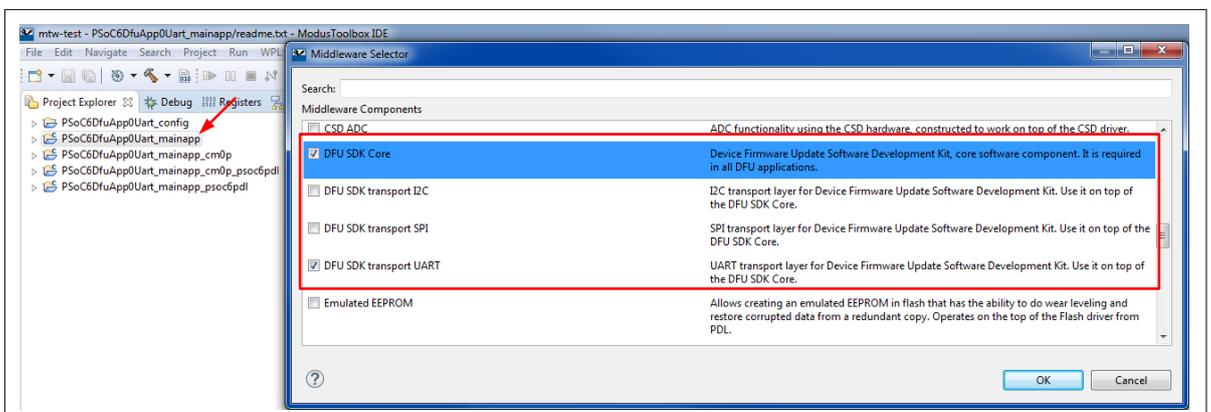

Figure 7 Incorporate DFU SDK into a ModusToolbox™ Project
2. Incorporate the DFU SDK into the project, as Figure 7 shows. Right-click the _mainapp project in the Project Explorer window and click **Middleware Selector**.